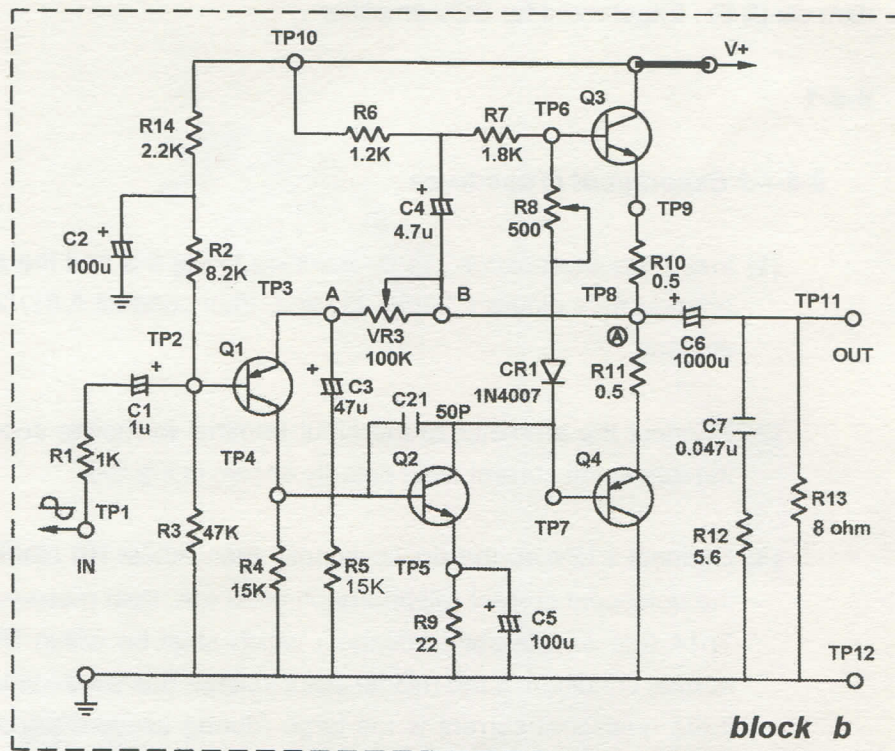

Fig 9-5 (Fig 23006-block b)
- (1) Firstly fix the module KL-23006 in the KL-200 Linear Circuit Lab, then locate the block marked 23006-block b.
- (2) Insert the short-circuit clip by referring to Fig 9-5 and the short-circuit clip arrangement diagram 23006-block b, then connect A $8\Omega/20W$ resistor as the load
- (3) Connect the ammeter to the input terminal for power supply to measure the quiescent current, with polarity shown in Fig 9-5.
- (4) Slowly adjust the power supply V+ from 3V to 18V, then view the quiescent current. If the quiescent current exceeds 20mA, adjust R8 (SVR500K Ω) so that the quiescent current can be maintained at around 20mA. If this adjustment is useless, please firstly carry out Step (5).
- (5) Adjust VR3 (VR100K) so that the voltage of point A (middle-point voltage) = $1/2 V_{cc} = 9V$ (the error shall be within $\pm 2\%$).
- (6) If the middle-point voltage can not be adjusted to $1/2 V_{cc}$ and the quiescent current $\gg 20mA$ (the transistors are over-heated), please turn off the power supply. Then, firstly carry out the ohmic test in accordance with the methods for measurement of transistor to check if any transistor is short-circuit.
- (7) Connect the voltmeter (DCV) to the power supply for static test. In addition to the middle-point voltage, V_{be} and V_{ce} of each transistor shall be respectively measured.
- (8) After the middle-point voltage and quiescent current have been normal, connect signal generator and oscilloscope in the input terminal (IN), and connect oscilloscope to the output terminal (OUT). Adjust the signal generator to 1KHz sine wave and gradually increase the output voltage of signal generator so that the oscilloscope can display maximum non-distorted waveform of this amplifier output.
- (9) Use oscilloscope to measure the waveforms of Tp2, Tp3, Tp4, Tp6, Tp7 and Tp11.
- (10) Adjust 500Ω (R8) to minimum, then view if crossover distortion is generated in the waveform of Tp11 (OUT).
- (11) Adjust 500Ω (R8) to maximum, then view if Q3 and Q4 are over-heated. During normal status Q3 and Q4 shall be slightly over-heated while input signal is applied to this amplifier.
- (12) When the middle-point voltage and quiescent current have been adjusted to normal condition, change the connections to $8\Omega/20W$ speaker for output terminal and to other signal source such as CD or walkman ... etc. for input terminal, then listen to the music.
- (13) Remove the signal source, then use finger to touch the input terminal, and low-frequency noise shall be heard from the speaker.
The transistors are easier to be burned down in OCL circuit comparing with OTL circuit. Moreover, because the speaker is easily damaged if the middle-point voltage is shifted from 0V during the abnormal status of the circuit, the speaker protector or fuse is typically incorporated in the output terminal of the OCL AMP to prevent the speaker from damage when the middle-point voltage is abnormal. Since the C_o is used in OTL AMP to isolate the DC component, it is not necessary to incorporate the speaker protector. As C_o is removed from the OCL AMP, this AMP is featured for superior frequency response. In order to decrease the percentage of IC burning-down, OTL configuration is widely incorporated in the internal circuit of IC AMP. The inverse coupling circuit including R14 and C2, as shown in the OTL AMP of Fig 9-5, functions to eliminate the ripple so that low-frequency oscillation will not be generated. The C4, referred to as reactance-rise capacitor, is used to rise the AC impedance of R7 in the circuit so that the amplitude in the positive half cycle will not be attenuated due to R7.
9-5 : OTL AMP as shown in Fig 9-5.